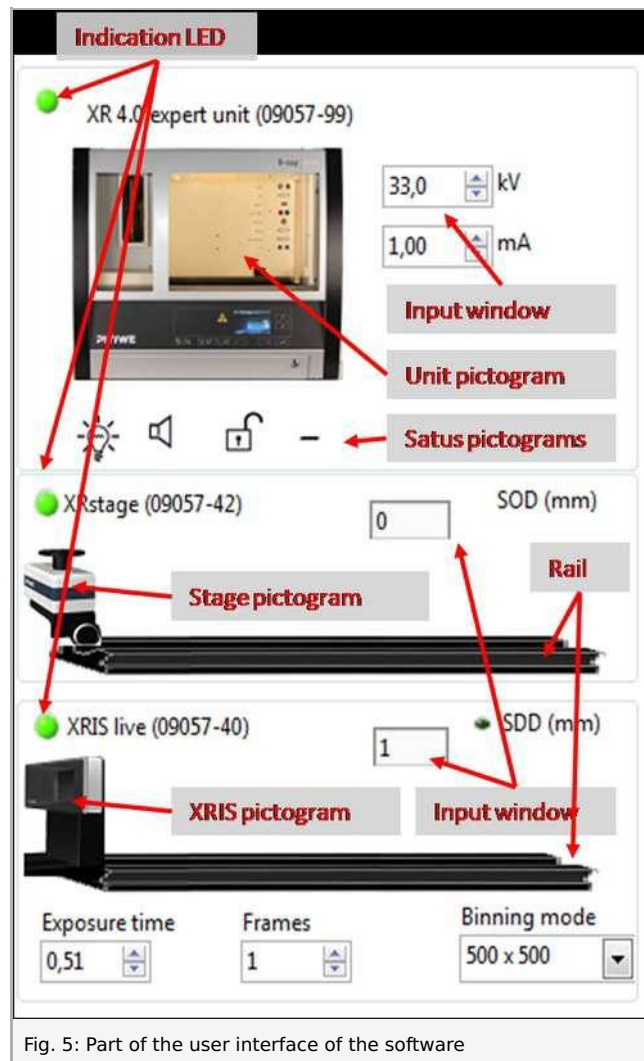

Fig. 5: Part of the user interface of the software
- Start the “measureCT” program. A virtual X-ray unit, rotation stage and Detector will be displayed on the screen. The green indication LED on the left of each component indicates that its presence has been detected (Fig. 5).
- You can change the High Voltage and current of the X-ray tube in the corresponding input windows or manually on the unit. (Fig. 5).
- When clicking on the unit pictogram additional information concerning the unit can be re-trieved (Fig. 5).
- The status pictogram indicate the status of the unit and can also be used to control the unit such as switching on and off the light or the X-rays (Fig. 5).
- The position of the XRIS and XRstage can be adjusted to its real position either by moving the XRIS pictogram or by filling in the correct value in the input window (Fig. 5).